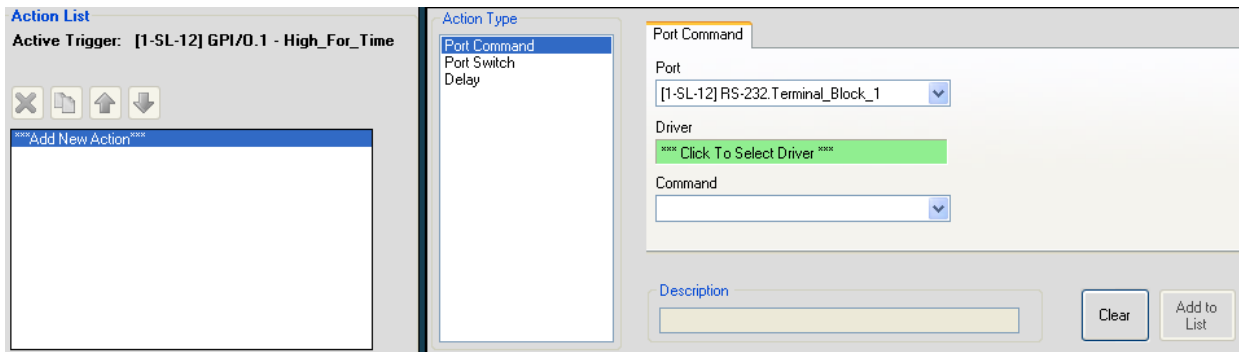

Figure 91: Adding Actions to the GPIO Trigger
7. Add actions to the new trigger (see Figure 91).